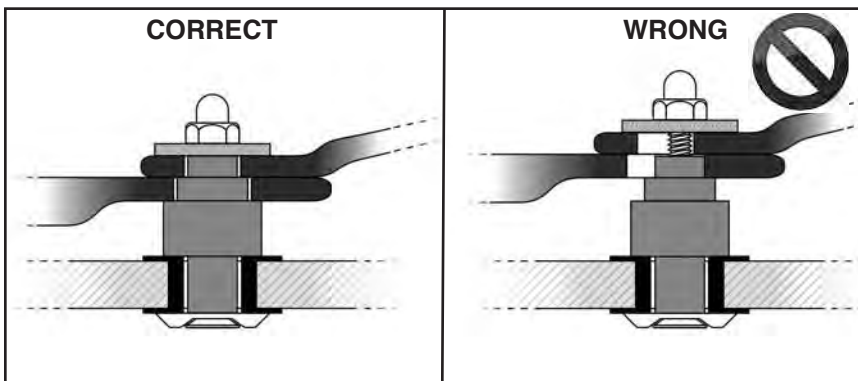

Figure 18
**⚠ The Outer and Inner Bushings must be fully seated in frame to tighten assembly correctly. Figure 18**